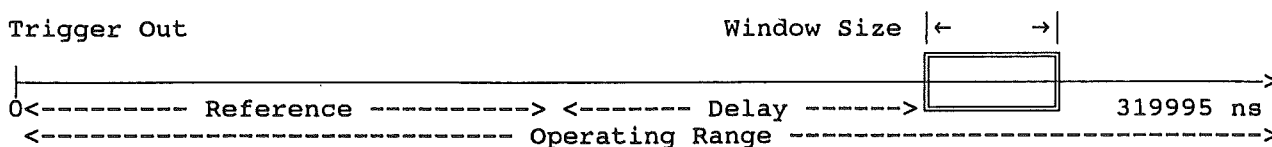

Figure 4-2
4.1.2 HOW THE DELAY GENERATOR WORKS This is easiest understood by referring to Figure 4-2 below. The Delay Generator runs at a set repetition rate. If the time of the Trigger Out is taken as zero, then a Reference value can be set to any point in time within the *Operating Range*. The Delay can be positive or negative but the Reference plus Delay must fall within the *Operating Range*. The Delay is measured from the Reference point to the left side of the scope Window position. The Window Size is determined from the Delay Generator T/DIV value, (Window Size = 10 x T/DIV). Again, Reference plus Delay plus Window Size cannot extend beyond the *Operating Range*. An attempt to do so will cause the error indicator, (E), to light. Press CLR and re-enter. The Window position, (Delay), can be moved by direct entry or stepped by the Delay Generator STP size value. When FN-REF-ENTER is pressed, the current Delay is added to the current Reference to give a new Reference and a Delay equal to zero while the Window position remains unaltered in the *Operating Range*. For delay times of less than 2 μ s the Delay Generator operates at about a 33 kHz repetition rate. This is the rate at which the laser is triggered. For longer delay times the rate slows down as required.